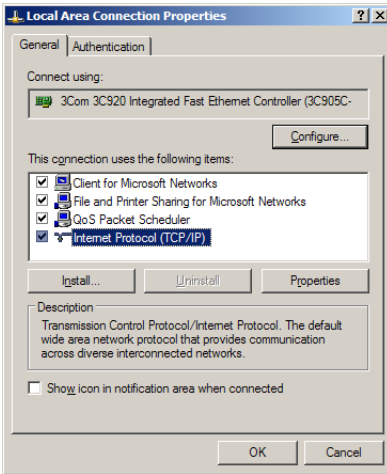

Figure 7-4 Local Area Connection Properties
4. Highlight the “Internet Protocol (TCP/IP)” item in the list, and click on the “Properties” button. Refer to Figure 7-4.